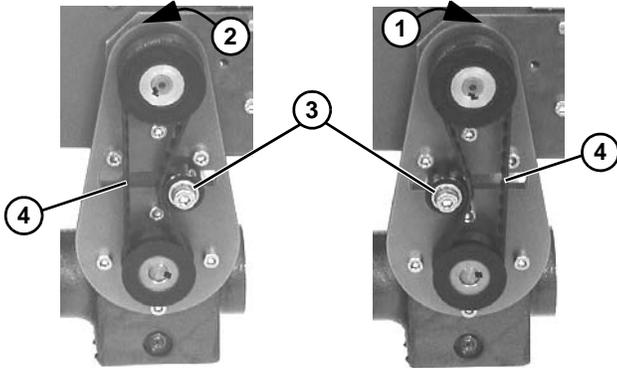

Figure 10
8. Depending on direction of conveyor belt travel (**Figure 10, item 1 or 2**), position belt tensioner (**Figure 10, item 3**) as shown. Tension belt to obtain .125" (3 mm) deflection for 1.0 lb (456 grams) of force at belt mid-point (**Figure 10, item 4**). Tighten tensioner screw to 103 in-lb (12 Nm).
3. Depending direction of conveyor belt travel (**Figure 10, item 1 or 2**), position belt tensioner (**Figure 10, item 3**) as shown. Tension belt to obtain .125" (3 mm) deflection for 1.0 lb (456 grams) of force at belt mid-point (**Figure 10, item 4**). Tighten tensioner screw to 103 in-lb (12 Nm).
5. Depending direction of conveyor belt travel (**Figure 10, item 1 or 2**), position belt tensioner (**Figure 10, item 3**) as shown. Tension belt to obtain .125" (3 mm) deflection for 1.0 lb (456 grams) of force at belt mid-point (**Figure 10, item 4**). Tighten tensioner screw to 103 in-lb (12 Nm).